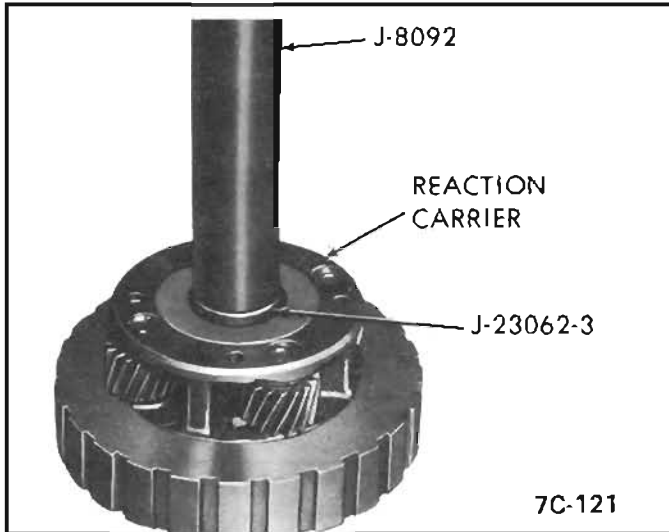

Figure 126 Reaction Carrier Bushing Installation
- a. Thread Tool J-23062-3 on Drive Handle J-8092 and remove bushing. *See Figure 126.*
- b. Using Tool J-23062-3, press in new bushing flush to .010" from inner surface of hub. *See Figure 126.*